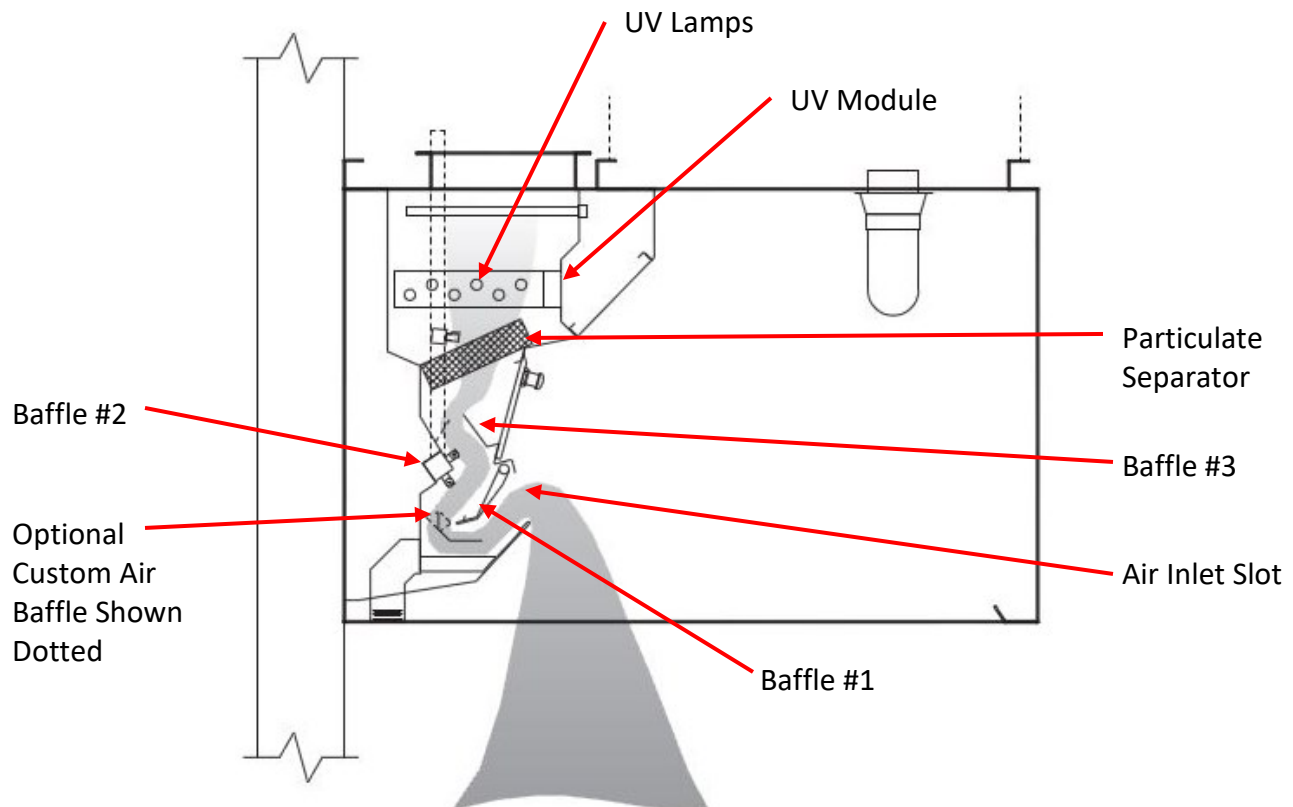
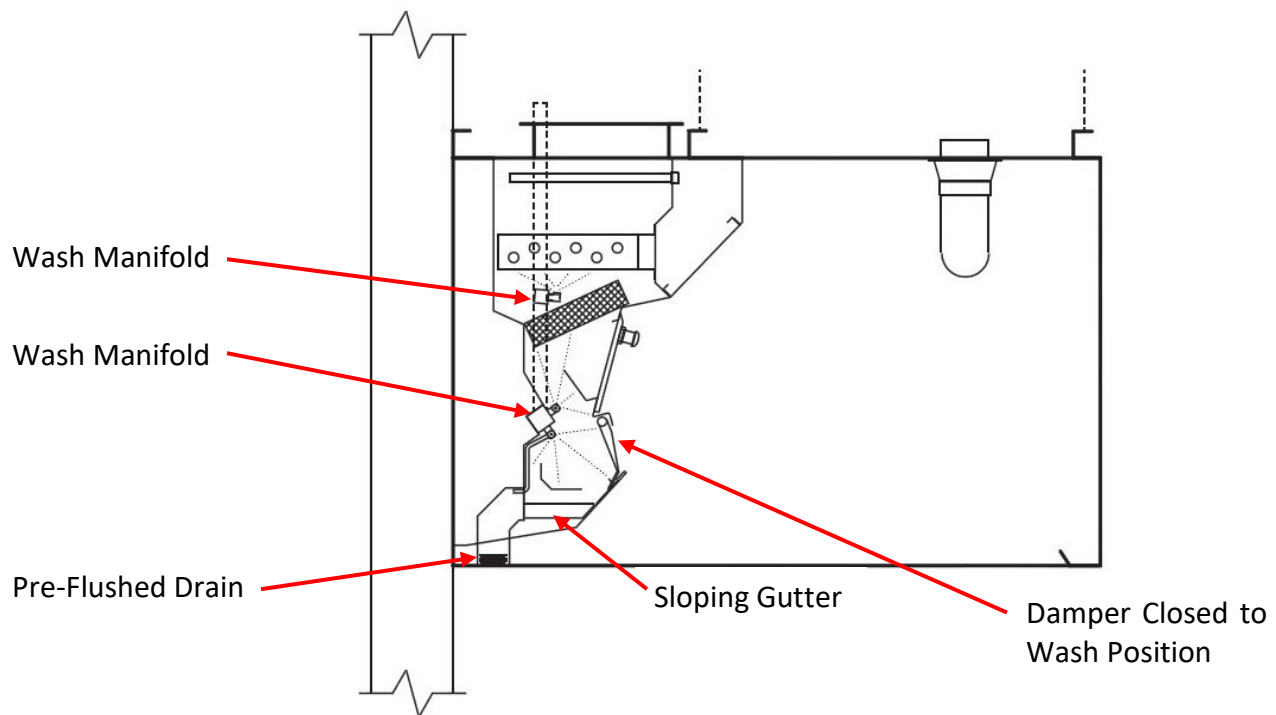

Figure 2-3-1
Figure 2-6-1
This baffle, located at the air entrance of the ventilator, is a three position damper. Position 1 is the exhaust on mode as shown in Figure 2-3-1, position 2 is the wash mode as shown in Figure 2-6-1, and position 3 is the fire mode as shown in Figure 2-8-1. When the "**START FAN**" button is pushed on the Command Center, the damper opens to the exhaust mode position 1 to become the preliminary grease extraction baffle. There is a small sloped grease collecting gutter on the back side of the damper which drains off liquefied grease, preventing it from re-entraining into the airstream.
This baffle is located on the interior back wall of the ventilator and is a stainless steel pipe, equipped with brass spray nozzles on 8" to 10" centers (Refer to Figure 2-3-1). During the wash cycle, hot detergent water is released through the nozzles.
This baffle is located on the back of the inspection doors (Refer to Figure 2-3-1). This baffle is also a grease collecting gutter, collecting the grease extracted by the ventilator preventing the contaminants from dropping back into the high velocity airstream.
Some Ventilators may be equipped with optional Custom Air baffles, shown dotted, which reduces the exhaust volume where the baffles occur (Refer to Figure 2-3-1).
Once the larger particles of grease have been captured through inertial impaction by the baffles, the smaller particles will be arrested in the Particulate Separator using the principles of diffusion and inertial impaction (Refer to Figure 2-3-1). These collected particles will be washed away each day by the automatic wash.
The UV Lamps are mounted in an UVi Module which slide into a track downstream of the Particulate Separator (refer to Figure 2-3-1). The ballasts are mounted in the front portion of the module and other electronics are mounted in the electrical raceway (Refer to Figure 6-7-1 and 6-15-1). The Command Center monitors and displays text indicating the status of the UV System, and Safety Interlocks. Refer to your Command Center Tech Manual for specific text displayed.
The wash system is comprised of two wash manifolds with spray nozzles are located on 8" to 10" centers (Refer to Figure 2-6-1). The wash cycle is activated each time the exhaust fan is shut off by pushing the **START WASH** button on the Command Center or automatically at a specific time as programmed in the Command Center (Refer to Figure 2-7-1). When activated the UV lamps shut off, the exhaust and supply fans shut off, the electric damper motor is energized and the damper begins closing forward to the wash position, and once closed the hot water wash sprays come on (Refer to Figure 2-6-1).
Caution: Never operate the Ventilator with the UV Module Access Doors or the Extractor Inspection Doors open (Refer to Figure 2-3-1).
1. Baffle #1 begins opening from the wash position to the exhaust position (Refer to Figure 2-6-1 and 3-2-3). **Note:** Baffle #1 only opens on Models CG3-UVi and CG3-UVi-FDL Series. Baffle #1 is fixed on Models CG3-UVi-FDT, CG3-UVi-FDD and CG3-UVi-ND Series. The Ventilator model number can be found on the Ventilator Nameplate (Refer to Appendix "A" for a sample of the Nameplate). Refer to page 1-3 for a complete explanation of model numbers.